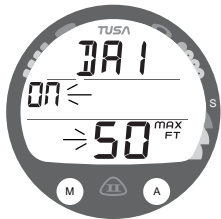

Fig. 91 - SET FREE DA 1
**Set Free DA1**, information includes (Fig. 91) -